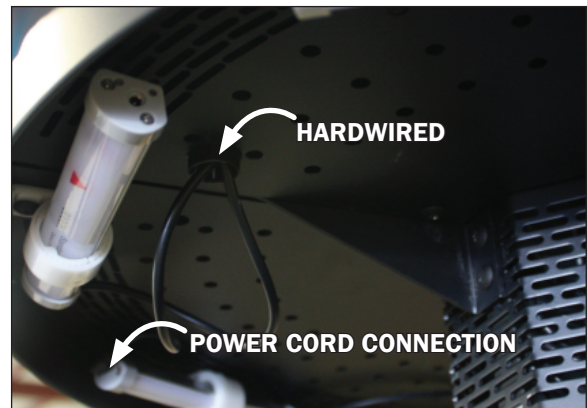

Fig. 5 Hardwired lighting and power cord connection
1. The LED lighting is hardwired so begin by unplugging the power cord at the end of the light (Fig. 5).